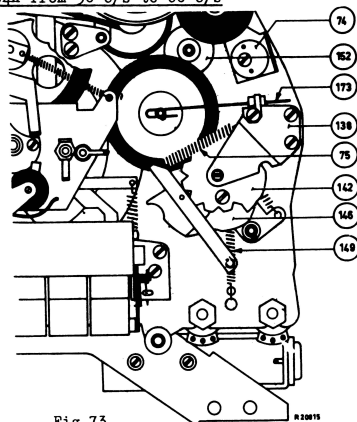

Fig 73
- Unhook tension spring 75 from bracket 138 (see fig. 73).